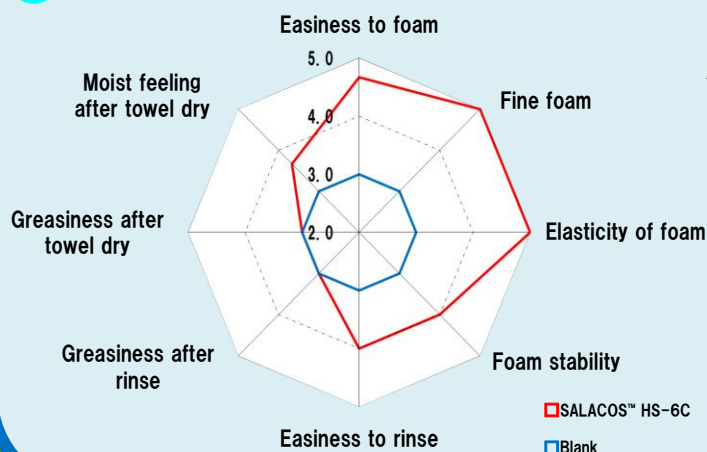

Fig.4 Evaluation of Texture (n=6)
2. Evaluate the texture based on items of Fig.4